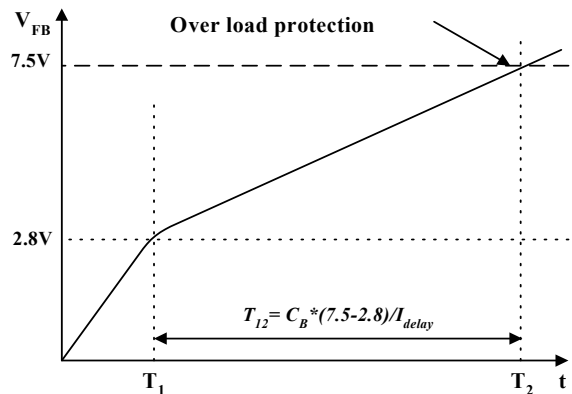

Figure 8. Over load protection
3.1 Over Load Protection (OLP) : Overload is defined as the load current exceeding its normal level due to an unexpected abnormal event. In this situation, the protection circuit should trigger in order to protect the SMPS. However, even when the SMPS is in the normal operation, the over load protection circuit can be triggered during the load transition. In order to avoid this undesired operation, the over load protection circuit is designed to trigger after a specified time to determine whether it is a transient situation or an overload situation. Because of the pulse-by-pulse current limit capability, the maximum peak current through the Sense FET is limited, and therefore the maximum input power is restricted with a given input voltage. If the output consumes more than this maximum power, the output voltage (Vo) decreases below the set voltage. This reduces the current through the opto-coupler LED, which also reduces the opto-coupler transistor current, thus increasing the feedback voltage (Vfb). If Vfb exceeds 2.8V, D1 is blocked and the 5uA current source starts to charge C_B slowly up to Vcc. In this condition, Vfb continues increasing until it reaches 7.5V, when the switching operation is terminated as shown in Figure 8. The delay time for shutdown is the time required to charge C_B from 2.8V to 7.5V with 5uA. In general, a 20 ~ 50 ms delay time is typical for most applications. This protection is implemented in auto restart mode.